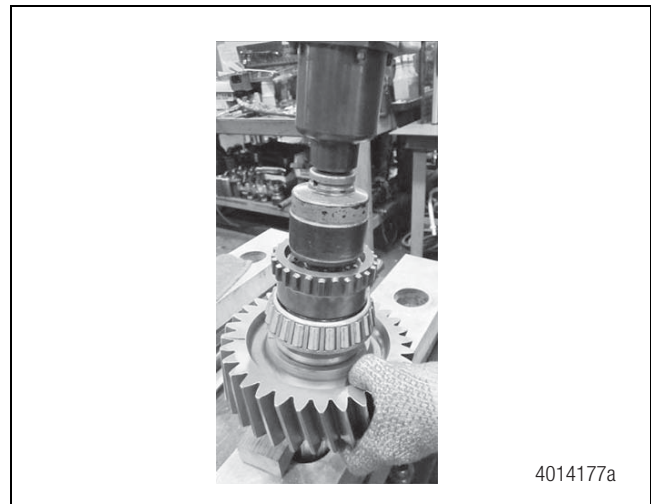

Figure 5.27
3. Remove the front clutch gear retaining locknut with an impact wrench. Figure 5.27. Slide off the clutch gear.